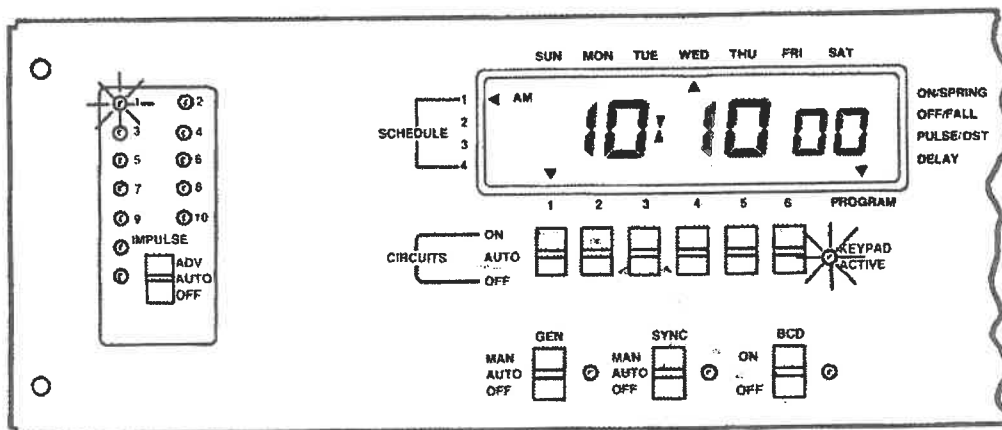

Figure 10
- LED #1 representing relay address #1 is blinking. See Figure 10.
Note: Selecting an ON event allows you to later turn ON your choice of remote relay(s) by placing the Circuit 1 manual override switch (see Figure 10) in the ON position. Selecting an OFF event allows you to later turn OFF your choice of remote relay(s) by placing the Circuit 1 manual override switch in the ON position.